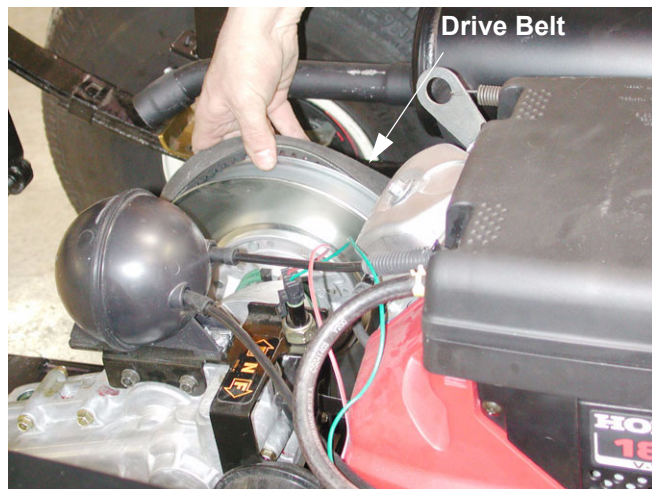

Figure 7.12
- 7.12. Carefully roll the drive belt off of the driven pulley on the transaxle. See Figure 7.12.